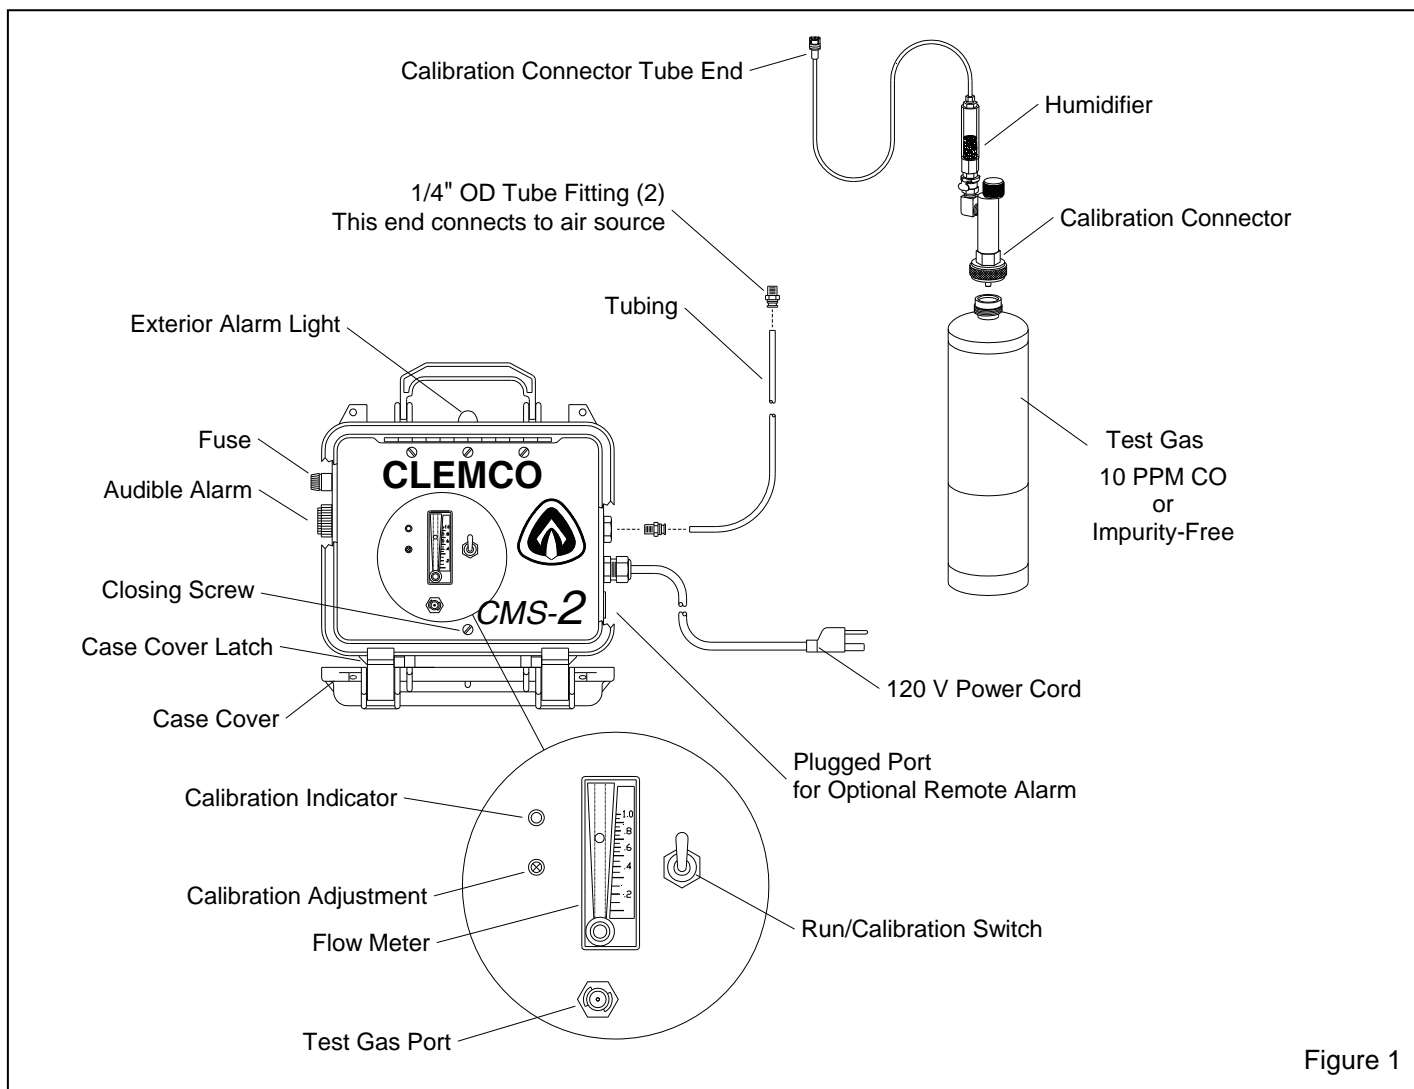

Figure 1
1.3.1 The primary components of the monitor are shown in Figure 1. The instrumentation is enclosed in a corrosion resistant polypropylene carrying case. The monitor system includes the instrument case, ten feet of 1/8" ID x 1/4" OD tubing with fittings, a cylinder of 10 PPM (parts per million) test gas, calibration connector which includes the connector valve, tubing and humidifier.
2.2.2.3 Loosen the closing screw located in the center of the lower edge of the faceplate. See Figure 1.